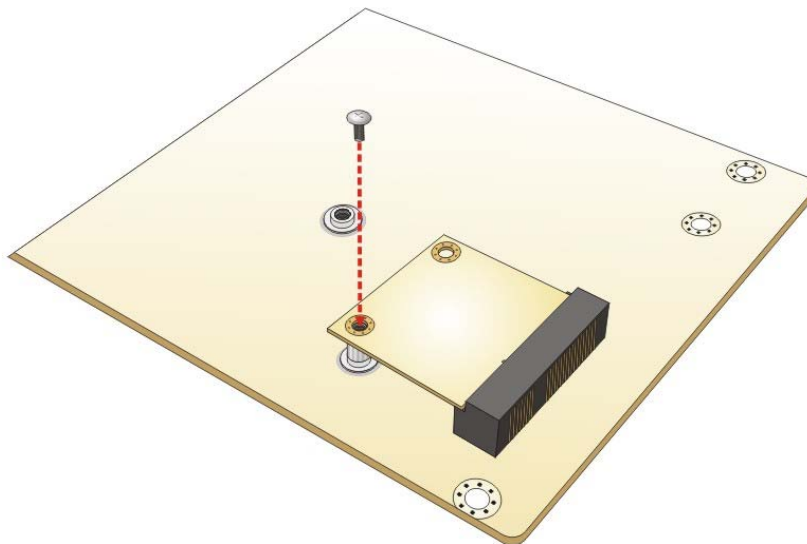

Figure 4-11: Securing the Half-size PCIe Mini Card
Step 6: Secure the half-size PCIe Mini card. Secure the half-size PCIe Mini card with the retention screw previously removed (Figure 4-11).